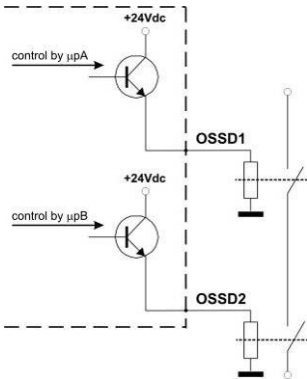

Fig. 15
• The OSSD1 and OSSD2 safety contacts cannot be connected in series or in parallel, but can be used separately (Fig.15). If one of these configurations is erroneously used, the device enters into the output failure condition (see cap.7 “Diagnostic functions”).